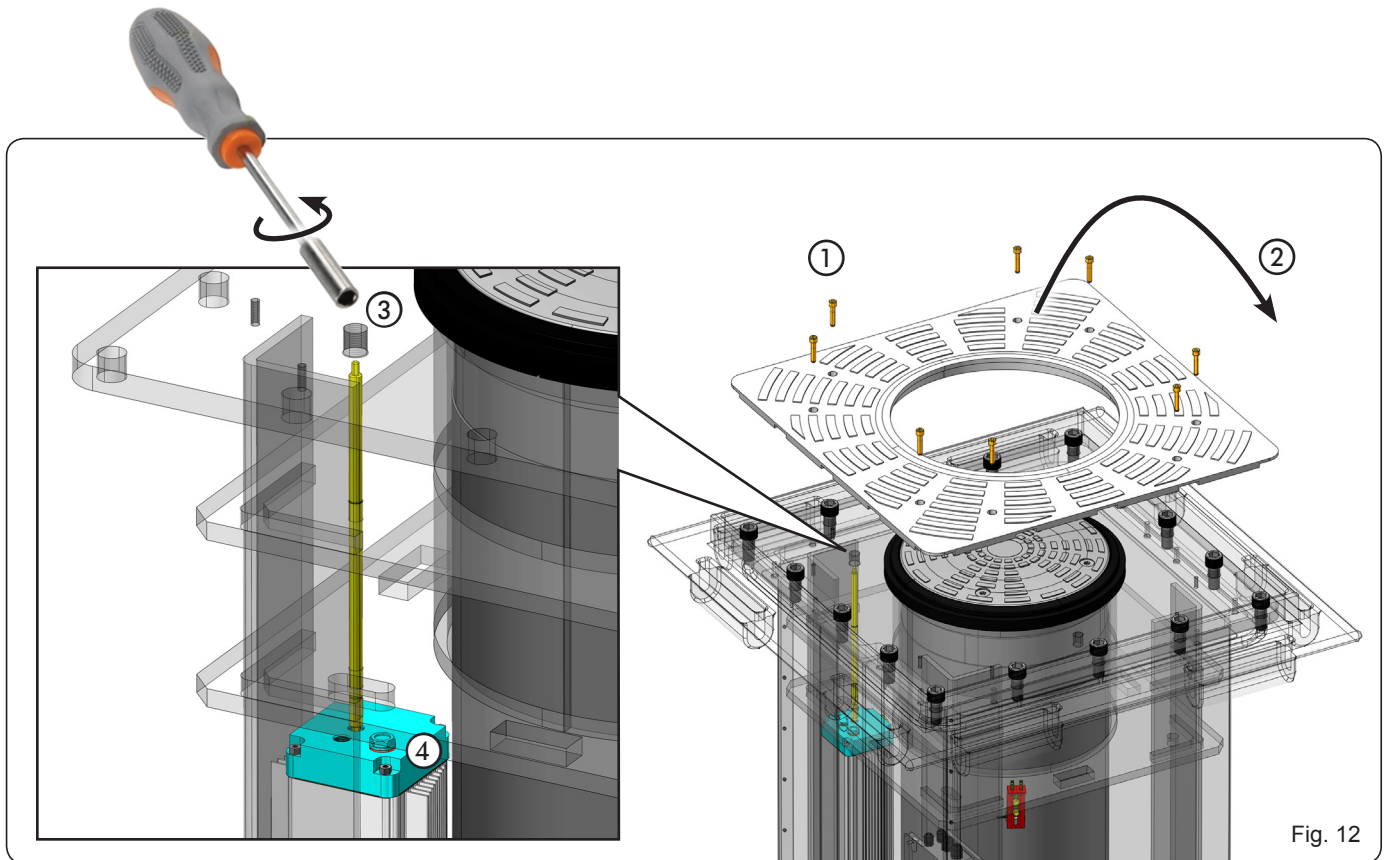
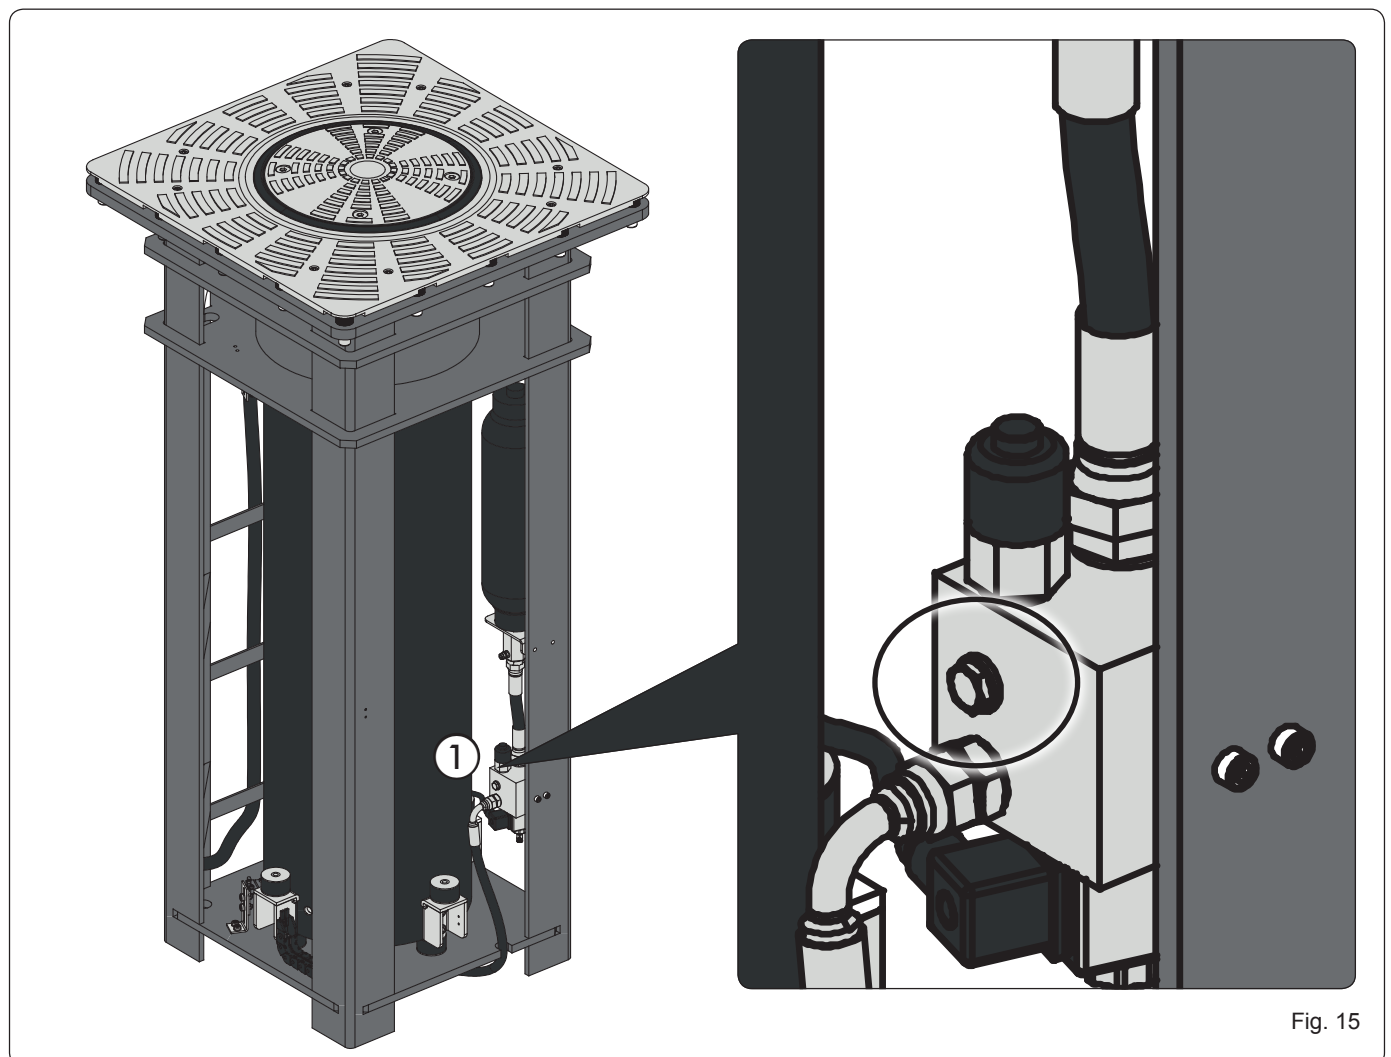

Fig. 12
Fig. 15
1. Loosen and remove the 8 cylindrical head screws with hexagon socket M8x30 securing the upper crown (Fig. 12 ref. ①).
2. Remove the upper crown (Fig. 12 ref. ②)
3. Insert a 5 mm tube key in the provided hole and turn anti-clockwise to lower the bollard (Fig. 12 ref. ③).
Drain the oil by activating the EFO system by opening the contact between terminals 7 and 8 of the terminal block in the junction box and then **slowly** loosen the screw shown in figure 15, ref. ① and collect the oil in a container. Once maintenance is complete, top-up the hydraulic control unit once again with the previously drained oil by pouring it into the cap shown in Fig. 12, ref. ④.